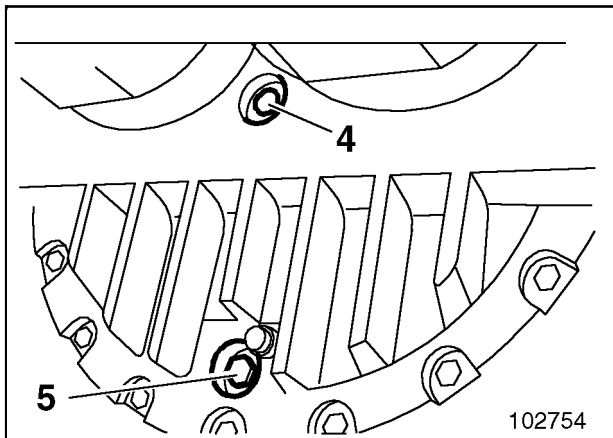

Fig. 1
The oil level must be visible in the level gauge (4, Fig. 1); top up with gearbox oil if necessary.
- Unscrew plug (5, Fig. 1) and drain off oil completely.
- Clean plug (5) and screw back in place.